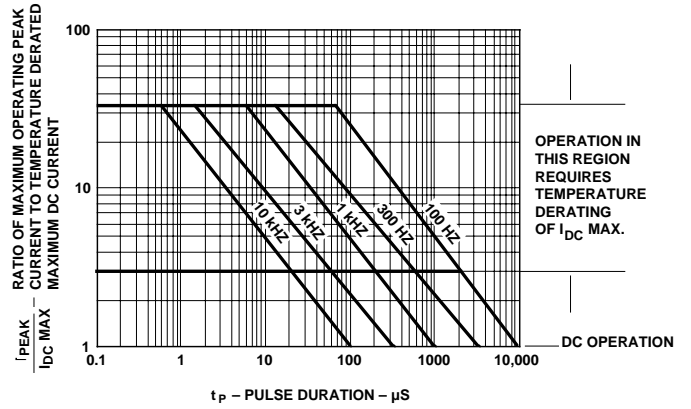

Figure 7. Maximum Allowed Peak Current vs. Pulse Duration - Green.
3. See Figure 7 to establish pulsed conditions.